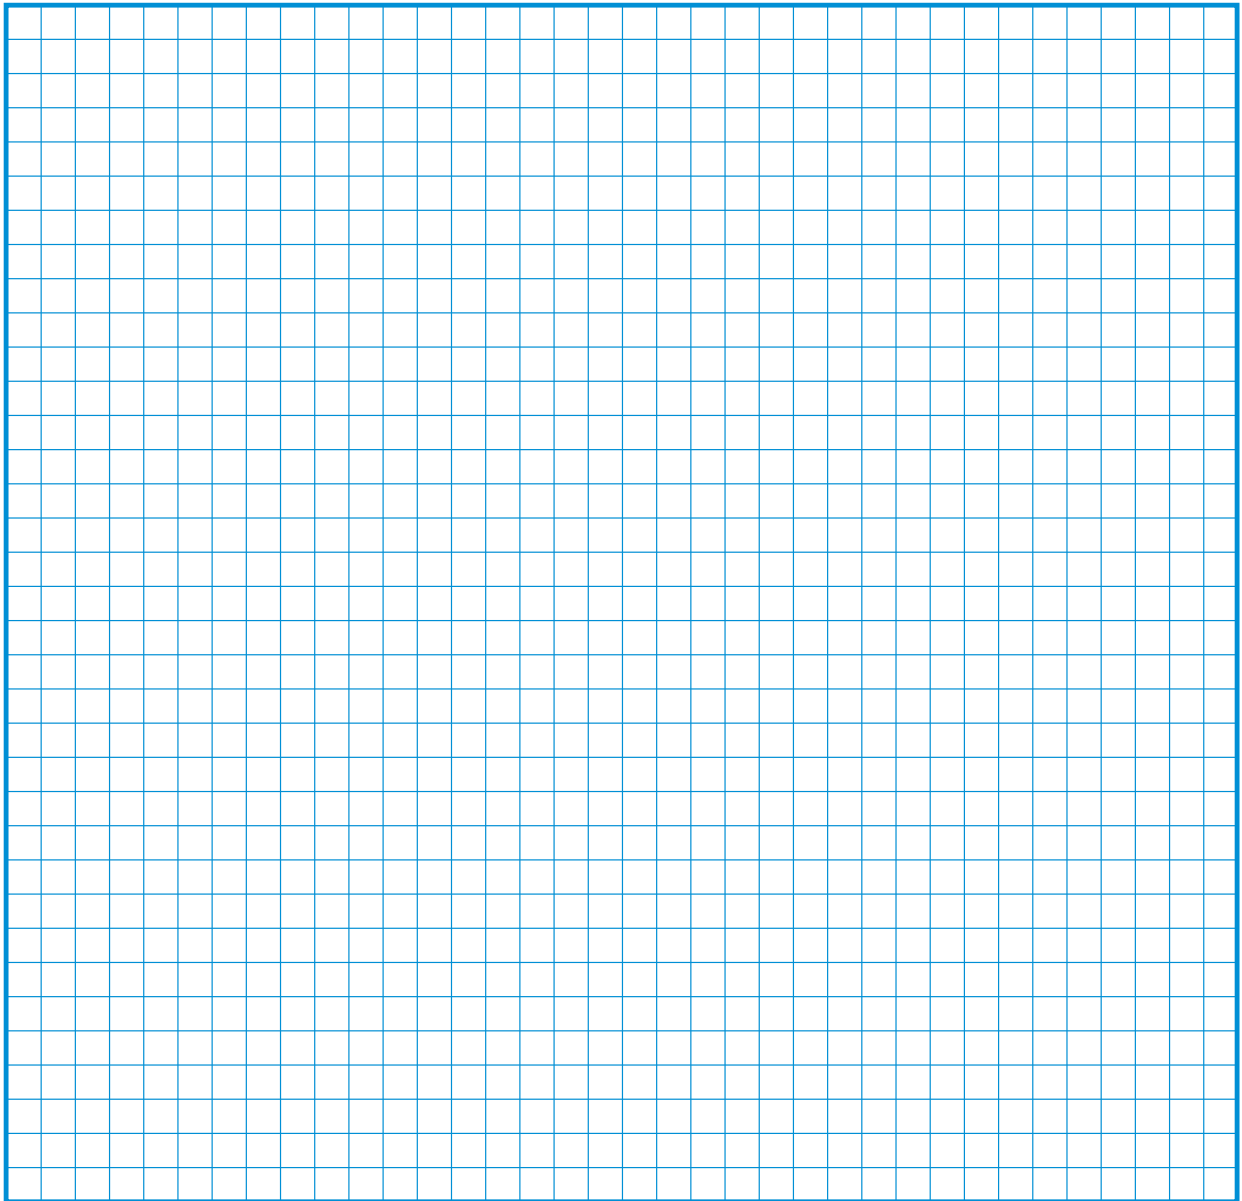

Figure 18: Draw your design on this grid.
1. Draw your design on the grid in Figure 18. Your design should show how you will make the driven generator of the wind turbine move four times faster than the driver. Use a pitch of 0,75 cm and a height of 0,50 cm for the gear teeth.